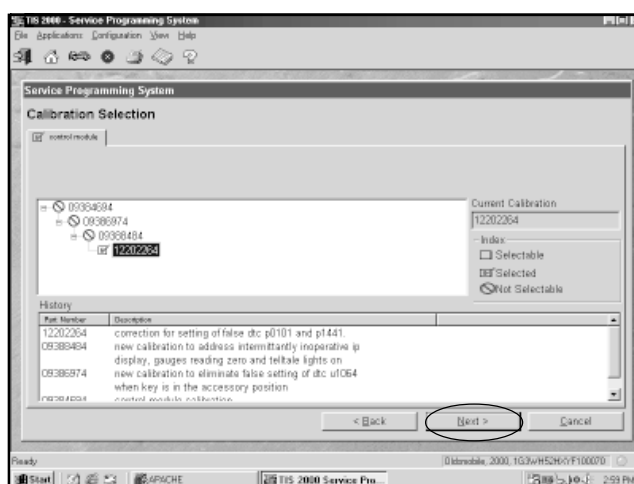

Figure I-48, Calibration Selection screen
8. A Calibration Selection screen (Figure I-48) will appear showing the calibration to be used. Make a calibration selection, if necessary. When all calibrations are selected, a green check mark will appear on each folder tab. **Select** Next.